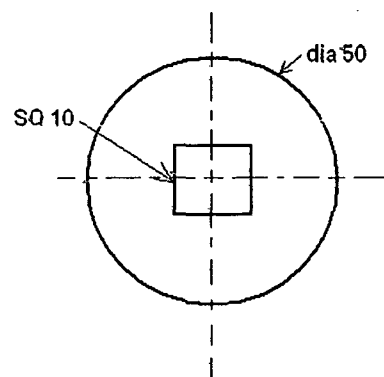

Fig.11
11. Design and give two views of a progressive die to be designed for producing the component shown in Fig.11. The sheet metal is of 3 mm thickness and made of Cold Rolled Steel of Shear strength 500 N/mm^2